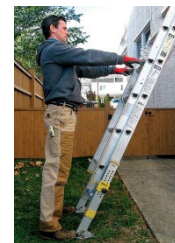

Fig. 1
2. The feet of a portable ladder shall be placed on a substantial base to prevent sinking or shifting. The base of the ladder should be placed about $\frac{1}{4}$ of its working length from a wall or support. *Standing with their feet at the base of the ladder a person should be able to extend their arm fully and touch a rung. (see fig. 1)*